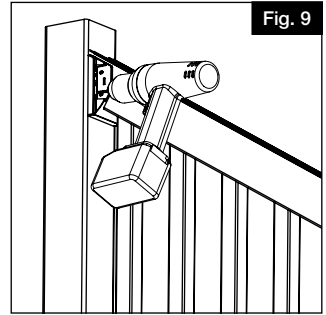

Fig. 9
- Make sure rails are fully seated with balusters and level and centered to post sleeve. While holding the top bracket snug to rail from underneath, and using $\frac{1}{8}$ " drill bit, pre-drill first top bracket screw hole (Fig. 9). Drill through bracket hole, vinyl post sleeve and vinyl insert and loosely install first #10 x $1\frac{1}{2}$ " screw.
- Enfoncer la première vis no 10 x 1½ po (38,1 mm) à travers le support inférieur jusque dans le poteau (Fig. 9).